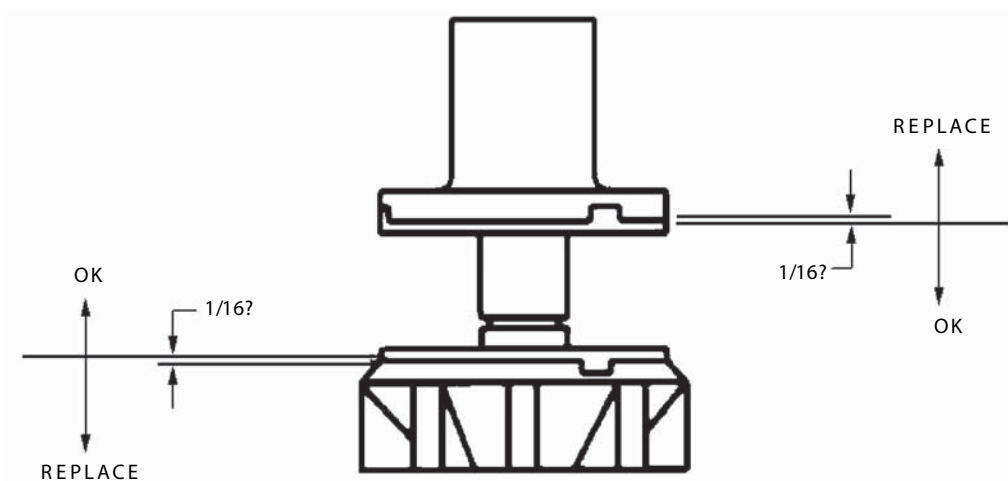

FIGURE 5. UPPER BEARING AND AUGER ASSEMBLY
7. Check white upper bearings on auger assembly. If bearings are less than 1/16” thick, replace. See FIGURE 5.